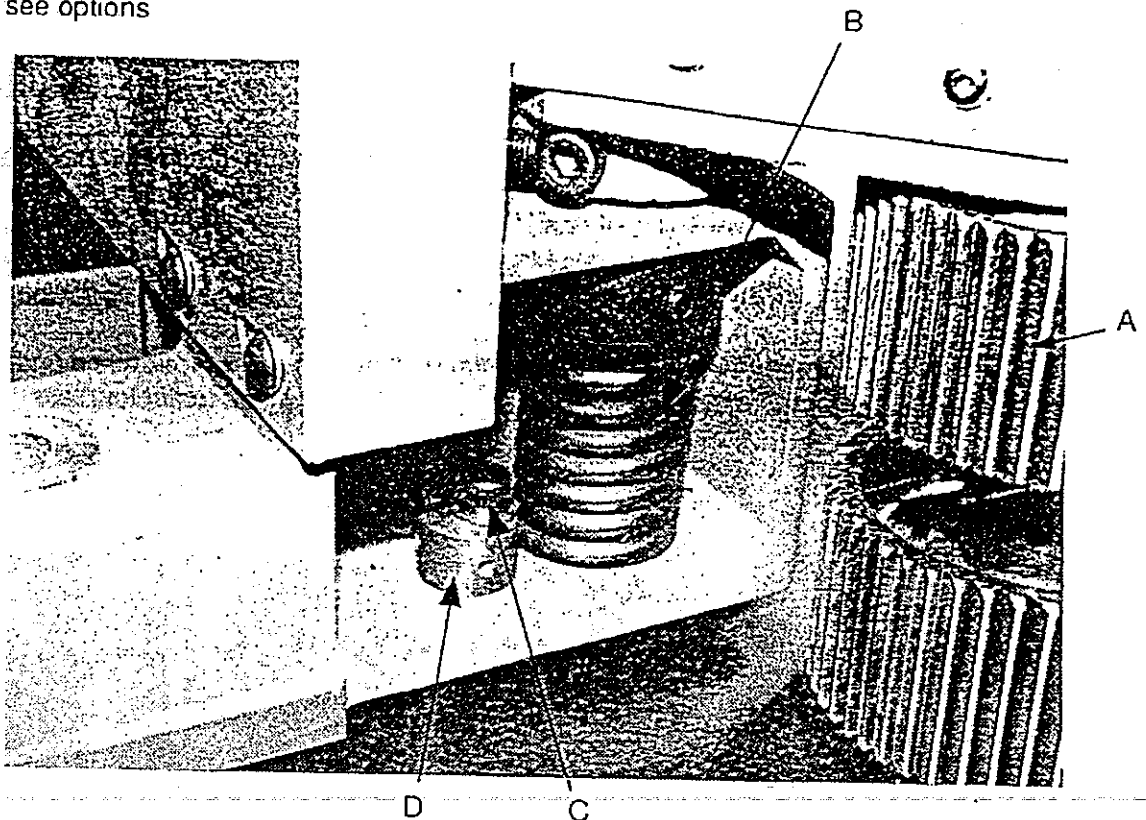

Fig 11
To adjust spring pressure on feed roller "A" (fig 11)
1. Loosen caphead "C" (fig 11)
2. Rotate cam "D" (fig 11) to increase or decrease tension on spring "B" (fig 11)
3. Tighten caphead "C" (fig 11)
4. Check tension by pushing feed roller "A" (fig 11) back by hand.